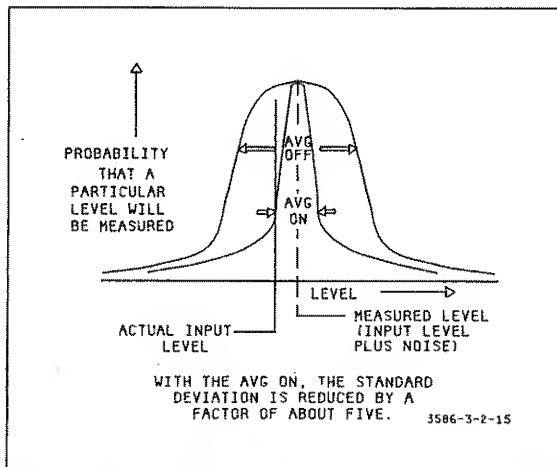

Figure 3-5-1. Effect Of AVERaging On Level Measurements.
**3-5-22. Averaging.** An input signal consisting of noise will naturally cause the displayed amplitude to rack. Use Averaging to reduce the range of variations in the measured level. Random level variations are evidenced by an erratic level reading in the Measurement/Entry display and by ripple in the rear panel meter output signal. The variations may be due to noise in the input signal, internal instrument noise or low frequency beat notes caused by two or more closely spaced frequencies in the input signal. (The beat frequency phenomenon would usually not occur with the type of input signals normally measured in the NOISE/DEMODulation mode.) The typical use of AVEraging in this mode is to reduce the *nominal* range of the amplitude variations during noise measurements. Its effect is illustrated in Figure 3-5-1. The outer curve describes the instrument with AVEraging and the inner curve is for the instrument with Averaging. Both curves show the probability that a single reading will fall within a particular range of level. *On the average*, the instrument will read closer to the true RMS level of the noise when AVEraging is on. Note that the maximum range of signal variations is unchanged since a single noise measurement can (theoretically) be infinite in both cases. The price paid for the reduced racking is an increase in measurement time. The measurement rate is slowed from approximately four readings every second to approximately one per-second. Averaging is not normally used when the primary purpose is to monitor a message channel signal or to output the demodulated signal through the headphone or audio jacks. It has no effect on any of these outputs.